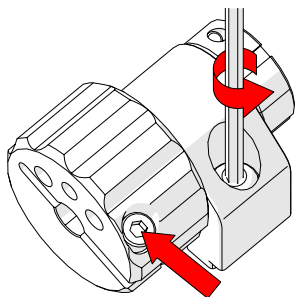

Fig. 138 - Loosen screws
1. Ensure the lock screw and the hexagonal screw in the main knob are loose (Fig. 138).